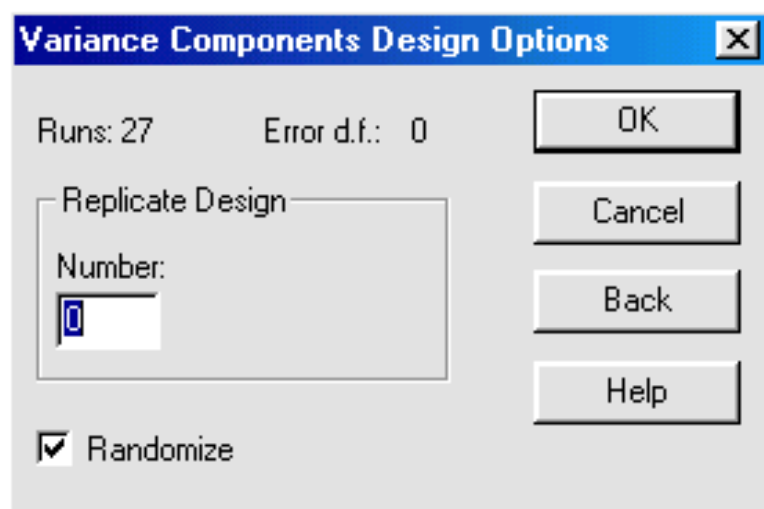

Figure 10-4. Variance Components Design Options Dialog Box
7. Click OK to display the Variance Components Design Options dialog box shown in Figure 10-4.
Use the *Variance Components Design Options* dialog box to choose another design or to make changes to the current design. See Figure 10-4 for an example of this dialog box.